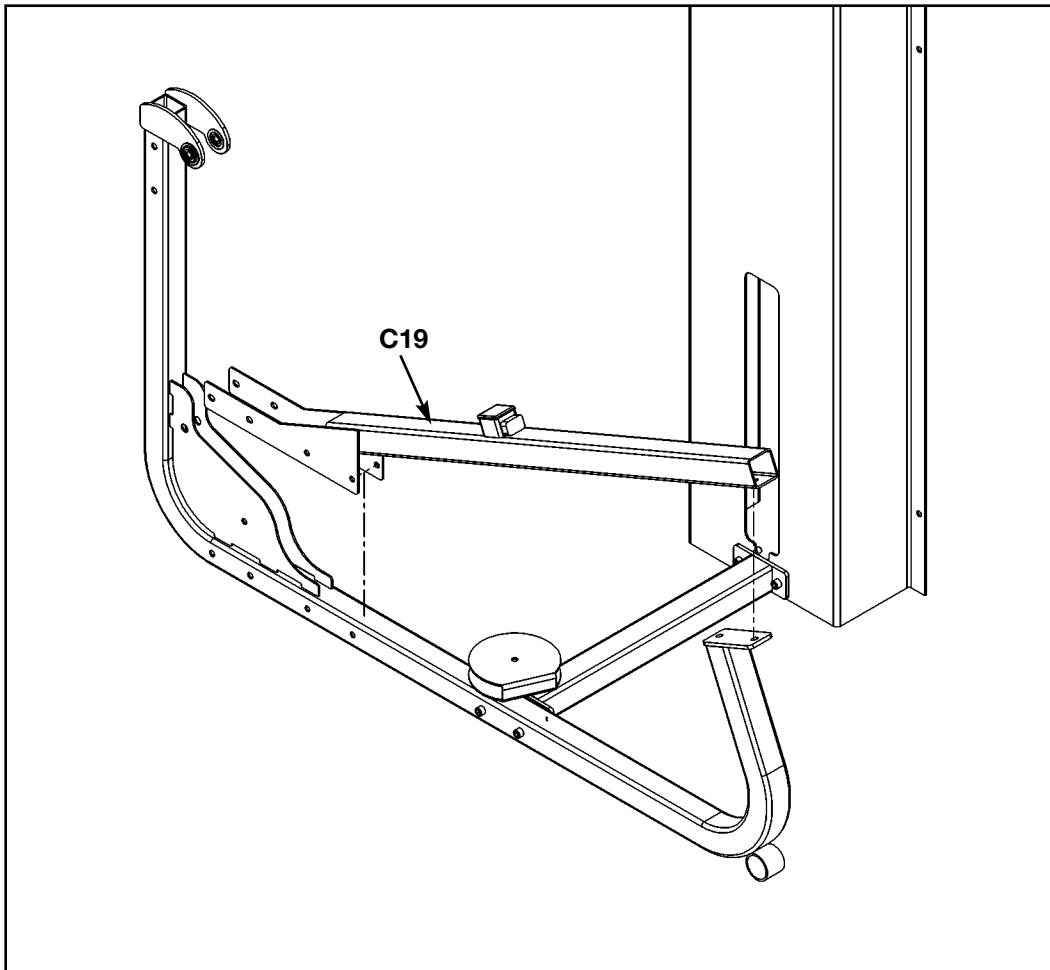
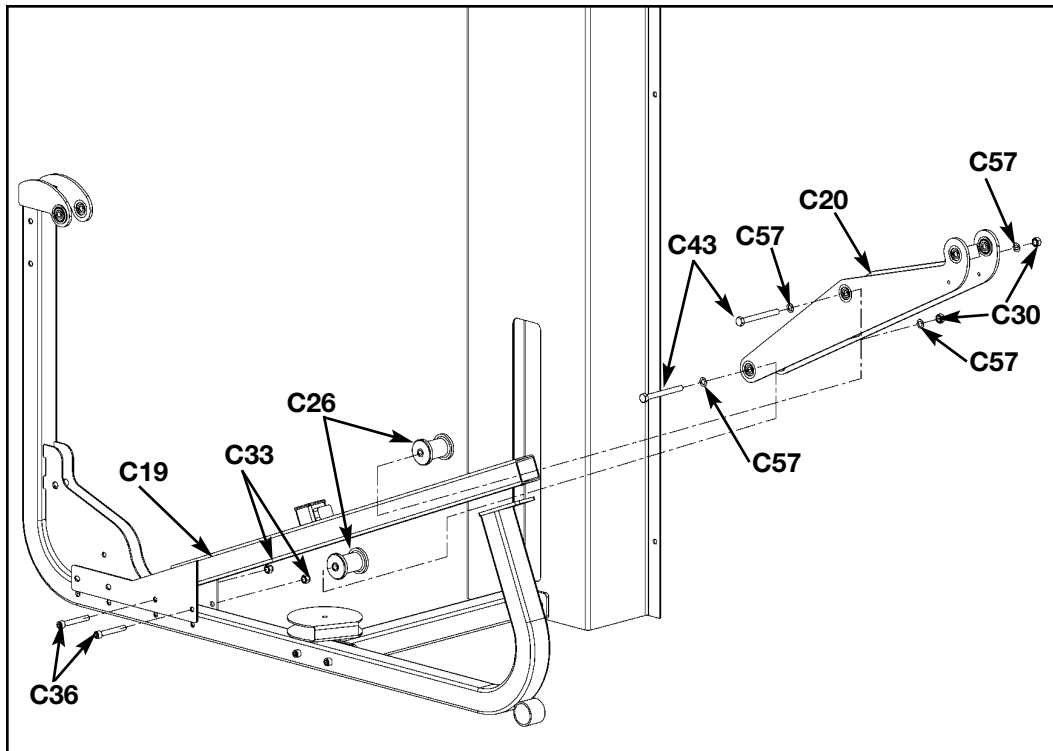

Figure 7
Figure 8
**4. Install roller tube** (see steps 4A - 4F, Figures 7 and 8).
**B.** Set roller tube (#C19) on frame as shown in Figure 8. Do not install any hardware at this time. See Figure 7.
- D.** Slide roller plate (#C20) on roller tube (#C19) as shown in Figure 8. Be sure tabs are facing to the back and upward.
- E.** Install rollers (#C26) and secure roller plate (#C20) using two HHCS 10 mm x 100 mm (#C43), two nylon locknuts 10 mm (#C30) and four internal tooth lockwashers (C57). See Figure 8.
- F.** Install two SHCS .375-16 x 2.75 (#C36) and two nylon locknuts .375-16 (#C33) to secure roller tube. See Figure 8. Do not securely tighten hardware at this time.